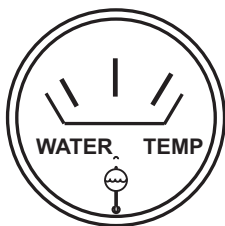

Figure 55. Coolant Temperature Gauge
15. The **coolant temperature gauge** (Figure 55) will indicate the coolant temperature. Under normal operating conditions the coolant temperature should be between 165 and 215 degrees Fahrenheit (**Green Zone**).